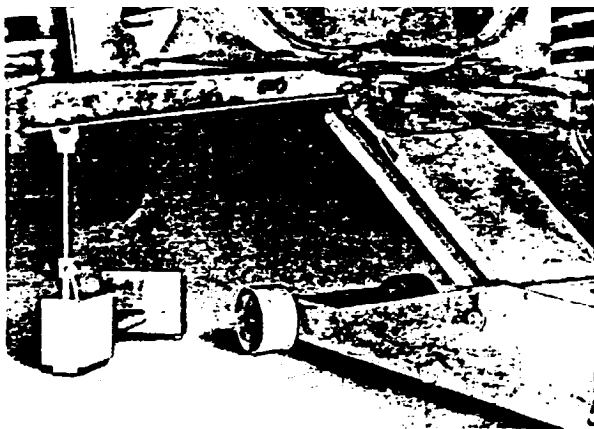

Fig. 24
(I) There has been some question as to how to best jack up the front wheels on Twin-l-Beam vehicles (see Fig. 24). This illustration shows the proper location for jacks in order to pick up both of the Twin-l-Beams at the same time for ease in balancing with the Strobe Balance-Indicator.